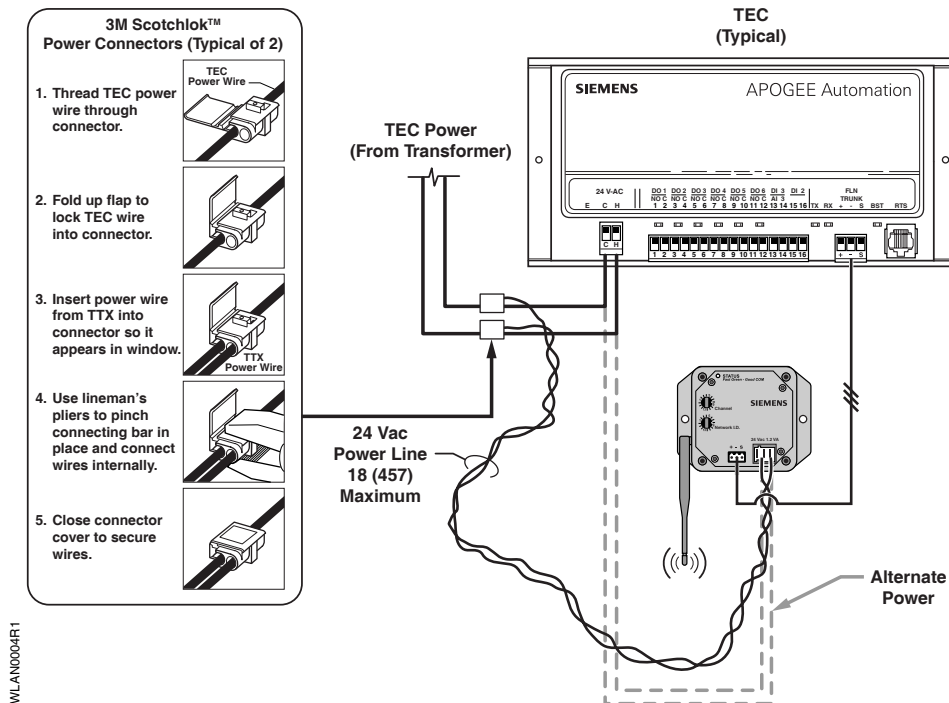

Figure 4. FLNX Communication and Power Wiring.
4. Connect 24 Vac power (Figure 4).